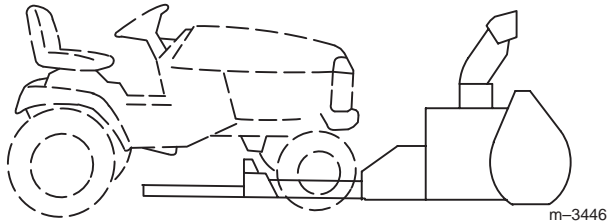

Figure 10
2. Park the tractor behind the snowthrower with the front wheels lined up to straddle the snowthrower frame and lift rod (Fig. 10). Lower the attachment lift and turn the ignition key to "STOP" to stop the engine. Remove the ignition key.